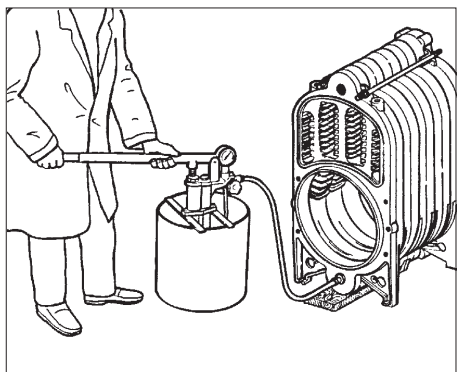

Fig. 17
4.10 (Fig. 17) Using the relative pump, connect to coupling 1 and pump in water under pressure (8 bar). Wait a few minutes before checking that there are no leaks. Now check that smoke retention between the elements is correct.